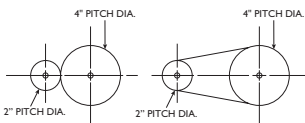

Fig. 23-3
- The rotation speed of the 4-in. pitch circle will be one-half that of the 2-in. pitch circle (Fig. 23-3).